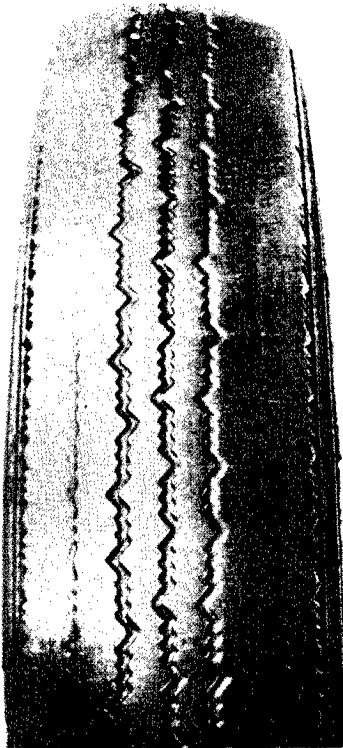

Fig. 1. Excessive tyre distortion from persistent under-inflation causes rapid wear on the shoulders and leaves the centre standing proud
When the handbrake lever in the car is operated, the operating lever (A, Fig. 1) is moved away from the friction pad carrier (B) and draws the friction pads (F) together. Under normal conditions, when the lever is released the pawl (C) in the adjusting mechanism returns to its normal position, thus the normal running clearance between the brake disc and the friction pads is maintained.